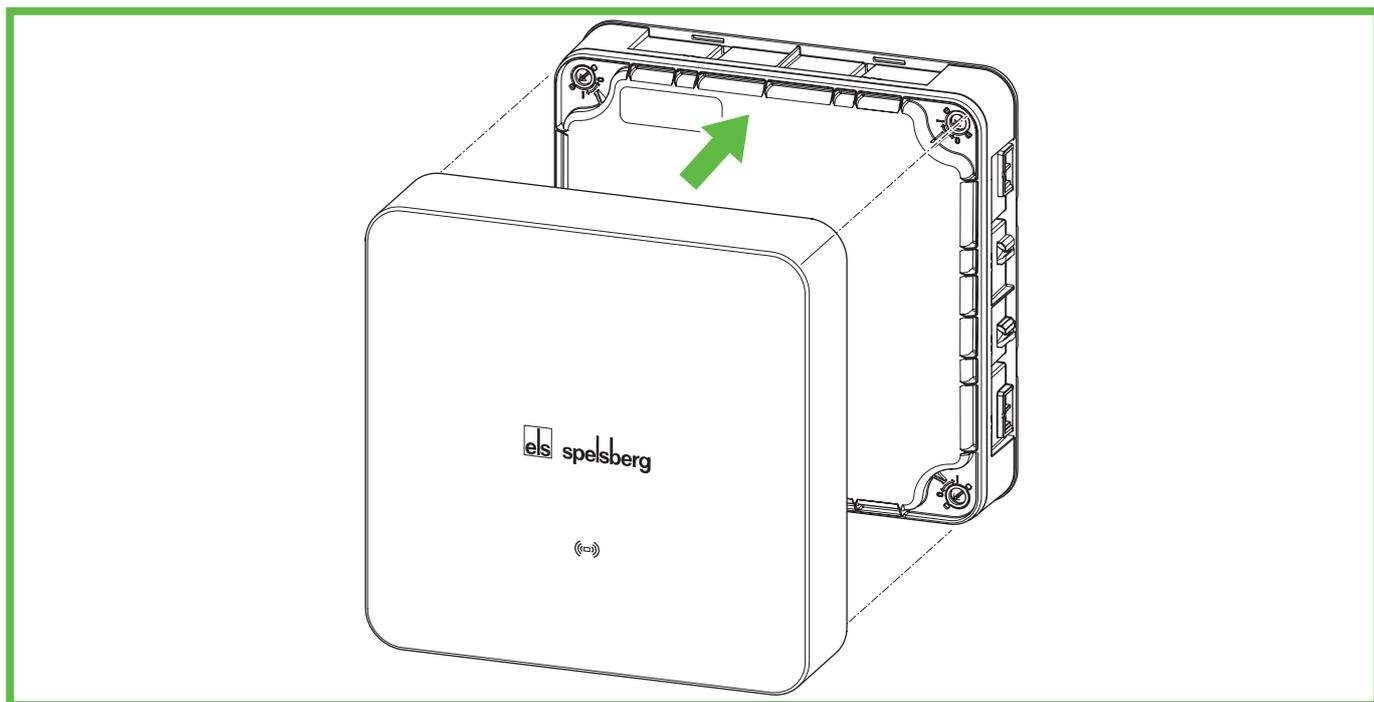

Fig. 22: Mounting the design cover
- ▶ Press the design cover onto the wallbox. The Spelsberg logo must be legible (see Fig. 22).